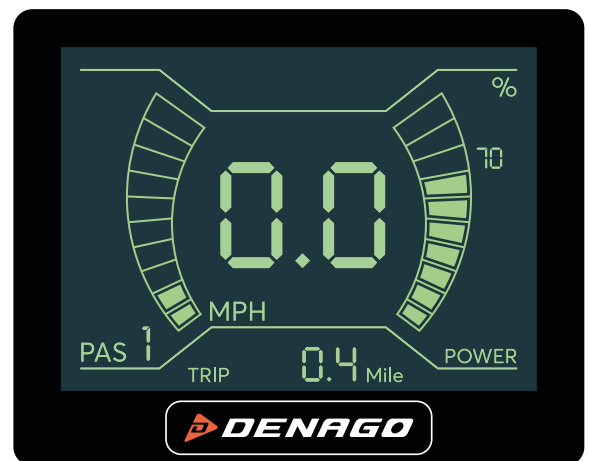

Fig. 26
- a. The monitor (FIG 26) is connected in a number of ways to your eBike. It interfaces with the HMI to adjust your PAS levels, advises if you have a problem with your brakes and also tracks a number of great features. Like speed, distance, MAX speed, battery level etc. The following will show you how to confirm and make needed adjustments.